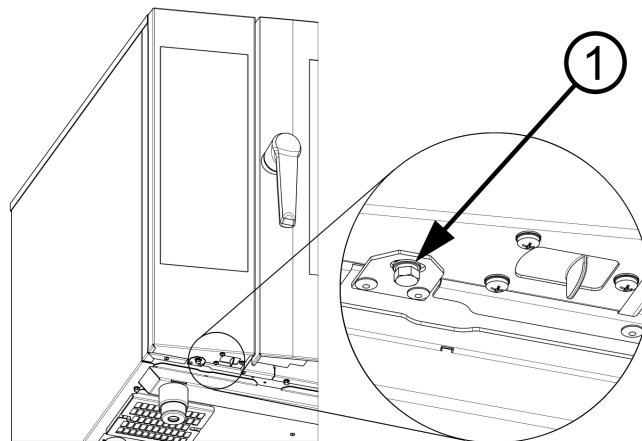

Figure 18: Loosening the control panel
Loosen the control panel by unscrewing the M4 bolt with washer (1) from underneath the control panel (see fig. 18), and remove the panel by sliding upwards, pull out towards you and flip out to the left.